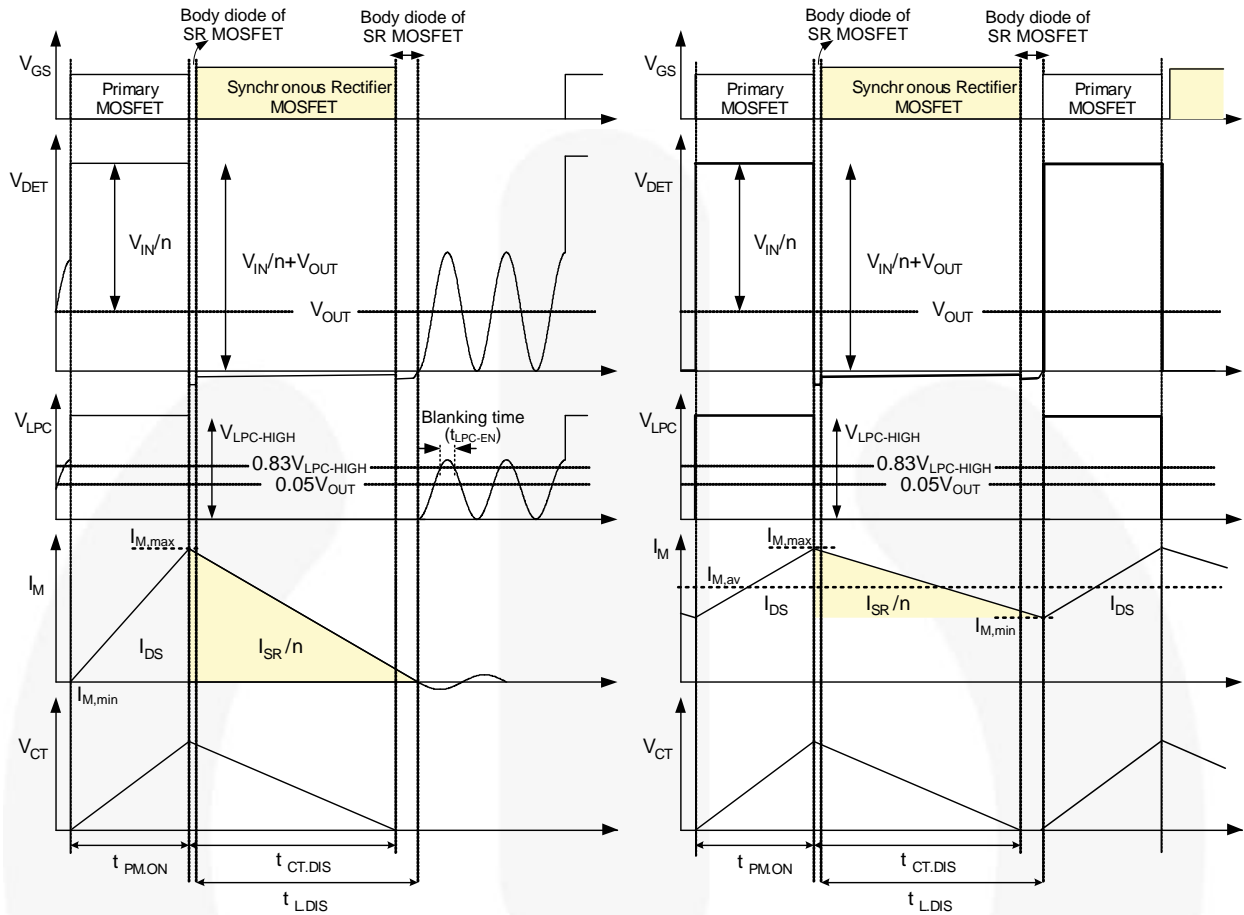

Figure 18. Typical Waveforms of Linear-Predict Timing Control in CCM and DCM/QR Flyback
The SR MOSFET turn-off timing is determined by linear-predict timing control and the operation principle is based on the volt-second balance theorem. The volt-second balance theorem states that the inductor average voltage is zero during a switching period in steady state, so the charge voltage and charge time product is equal to the discharge voltage and discharge time product. In flyback converters, the charge voltage on the magnetizing inductor is input voltage ( $V_{IN}$ ), while the discharge voltage is  $nV_{OUT}$ , as the typical waveforms show in Figure 18. The following equation can be drawn:
FAN6204 uses the LPC and RES pins with two sets of voltage dividers to sense DET voltage ( $V_{DET}$ ) and output voltage ( $V_{OUT}$ ), respectively; so  $V_{IN}/n$ ,  $t_{PM,ON}$ , and  $V_{OUT}$  can be obtained. As a result,  $t_{L,DIS}$ , which is the on-time of SR MOSFET, can be predicted by Equation (1). As shown in Figure 18, the SR MOSFET is turned on when the SR MOSFET body diode starts conducting and DET voltage drops to zero. The SR MOSFET is turned off by linear-predict timing control.
The linear-predict timing-control circuit generates a replica ( $V_{CT}$ ) of magnetizing current of flyback transformer using internal timing capacitor ( $C_T$ ), as shown in Figure 19. Using the internal capacitor voltage, the inductor discharge time ( $t_{L,DIS}$ ) can be detected indirectly, as shown in Figure 18. When  $C_T$  is discharged to zero, the SR controller turns off the SR MOSFET.
Referring to Figure 18; when LPC voltage is higher than  $V_{LPC-EN}$  over a blanking time ( $t_{LPC-EN}$ ) and lower than  $V_{LPC-TH-HIGH}$  ( $0.05 V_{OUT}$ ), then SR MOSFET can be triggered. Therefore,  $V_{LPC-EN}$  must be larger than  $V_{LPC-TH-HIGH}$  or the SR MOSFET cannot be turned on. When designing the voltage divider of LPC,  $R_1$  and  $R_2$  should be considered as:
The typical waveforms of CCM operation in steady state are shown as Figure 18. When the primary-side MOSFET is turned on, the energy is stored in  $L_m$ . During the on-time of the primary-side MOSFET ( $t_{PM.ON}$ ), the magnetizing current ( $I_M$ ) increases linearly from  $I_{M,min}$  to  $I_{M,max}$ . Meanwhile, internal timing capacitor ( $C_T$ ) is charged by current source ( $i_{CHR} - i_{DISCHR}$ ) proportional to  $V_{IN}$ , so  $V_{CT}$  also increases linearly.
In DCM / QR operation, when primary-side MOSFET is turned off, the energy stored in  $L_m$  is fully released to the output at the turn-off timing of primary-side MOSFET. Therefore, the DET voltage continues resonating until the primary-side MOSFET is turned on, as depicted in Figure 18. While DET voltage is resonating, DET voltage and LPC voltage drop to zero by resonance, which can trigger the turn-on of the SR MOSFET. To prevent fault triggering of the SR MOSFET in DCM operation, blanking time is introduced to LPC voltage. The SR MOSFET is not turned on even when LPC voltage drops below  $0.05 V_{OUT}$  unless LPC voltage stays above  $0.83 V_{LPC-HIGH}$  longer than the blanking time ( $t_{LPC-EN}$ ). The turn-on timing of the SR MOSFET is inhibited by gate inhibit time ( $t_{INHIBIT}$ ), once the SR MOSFET turns off, to prevent fault triggering.